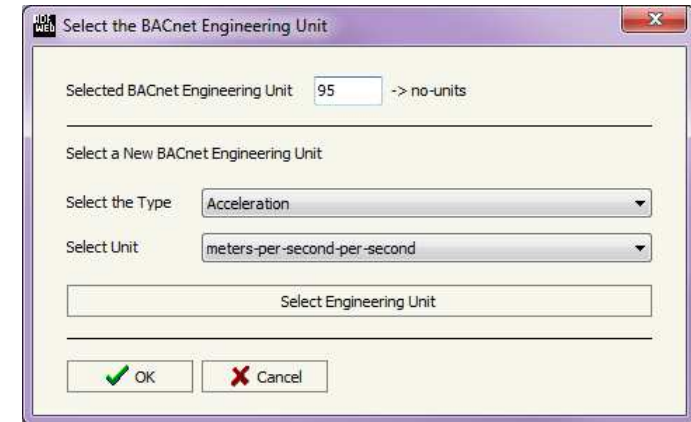

Figure 5: "Select the BACnet Engineering Unit" window
- In the field "Eng. Unit", with double click the window "Select the BACnet Engineering Unit" appears (Fig. 5);